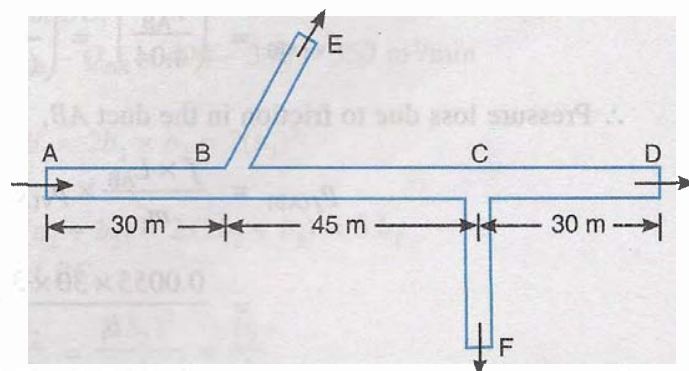

Fig. 20.21
**Example 20.14.** In the duct system, as shown in Fig. 20.21, the cross-section of the main duct is such that the width is always twice the depth. The total quantity of air entering at A is  $690 \text{ m}^3/\text{min}$  and the static pressure at A is  $18 \text{ mm}$  of water.